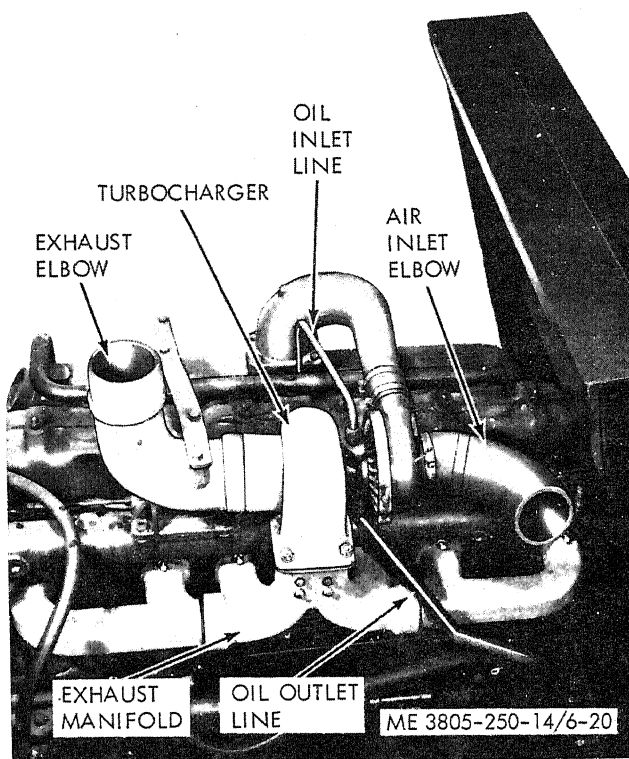

Figure 6-20. Turbocharger, removal and installation.
a. *Removal.* Refer to figure 6-20.
(1) Remove the engine side panels, exhaust pipe (para 4-22) and hood (para 4-51).
(2) Disconnect the air compressor air inlet line from the air inlet elbow.
(3) Disconnect the oil inlet line and oil outlet line. Cap or plug openings.
(4) Remove four screws and disconnect the exhaust elbow from the turbocharger. Discard the gasket.
(5) Remove four self-locking nuts and washers securing the turbocharger to the exhaust manifold. Remove the turbocharger and discard the mounting gasket.